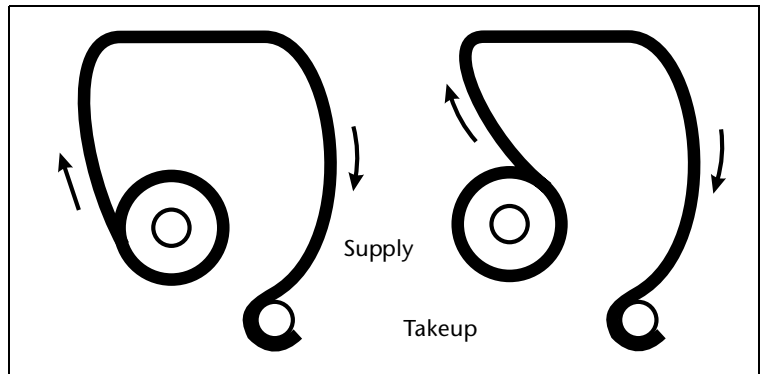

Fig. 3-3. Media path from supply to takeup
You can load the supply spool so that the media either unspools from the bottom or the top of the roll (see Fig. 3-3 below). This enables you to print on either side of the media.
15. Grasp the middle of the media web, pull straight back, route the media underneath the takeup core, and tape it to the takeup core as shown in Fig. 3-3 on page 3-15.